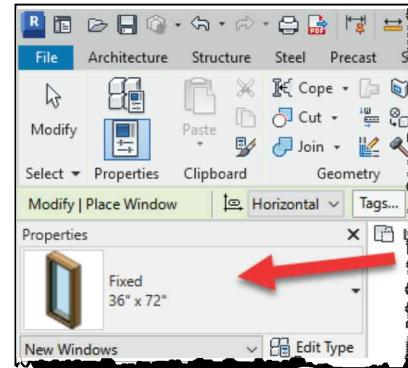

FIGURE 2-3.2 Window types
3. On the *Ribbon*, click **Tag on Placement** so it is highlighted and then change the *Type Selector* to **36" x 72"** (Figure 2-3.2).